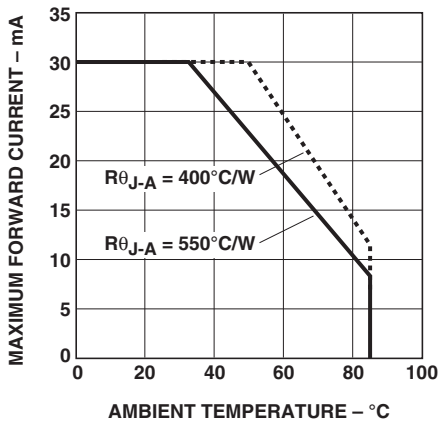

Figure 5. Maximum forward current vs. ambient temperature. Derating based on $T_{jMAX} = 110\frac{1}{2}^{\circ}C$.
1. Derate linearly as shown in Figure 5.